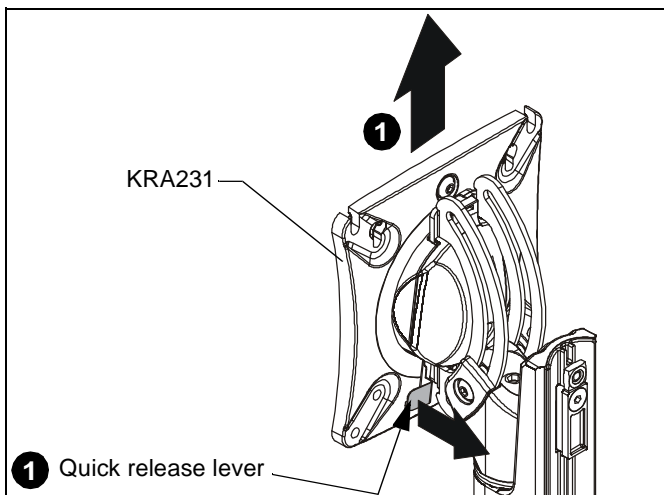

Figure 2
1. Remove cap from K1C or K2C column. (See Figure 2)
1. Remove quick release faceplate from KRA231 by pulling quick release lever and sliding faceplate off. (See Figure 2)